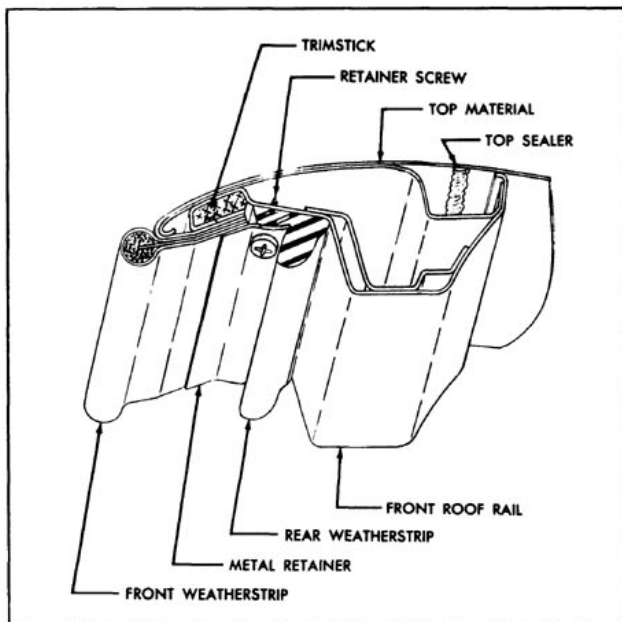

Fig. 16-124 Front Roof Rail Construction
3. At the front of body, raise front roof rail, remove retainers and front weatherstrips, detach top material from front roof rail. (Fig. 16-124)